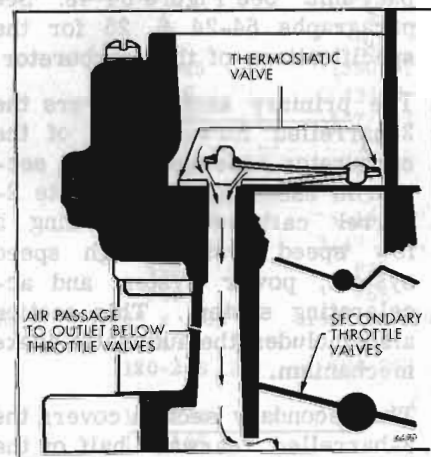

Figure 64-51—Thermostatic Valve Assembly
This allows additional air to flow through a special passage to an outlet below the secondary throttle valves. At normal operating temperatures, the valve should be closed. The thermostatic valve cannot be adjusted or repaired; therefore, a faulty valve must be replaced. See Figure 64-51.
11. Remove thermostatic valve and gasket. See Figure 64-51.
3. Install thermostatic valve using new gasket. See Figure 64-51.